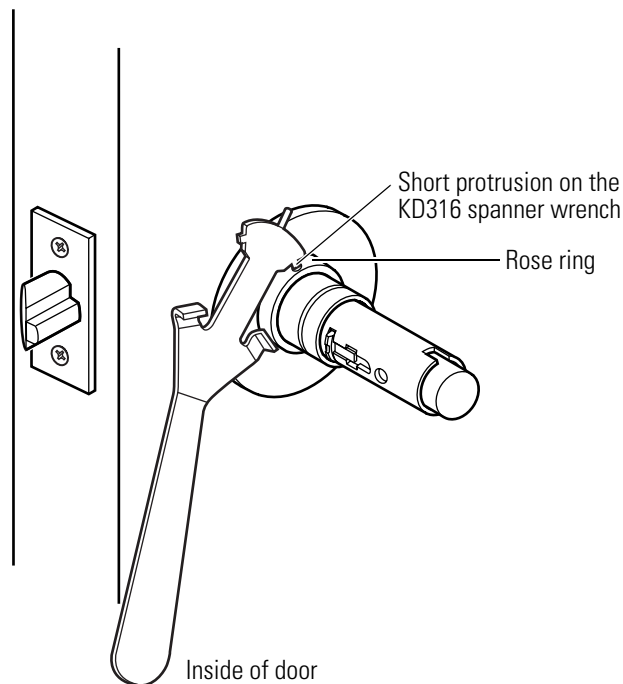

**Figure 3.6** Reinstalling the knob driver
1. Position the knob driver as shown in Figure 3.6.